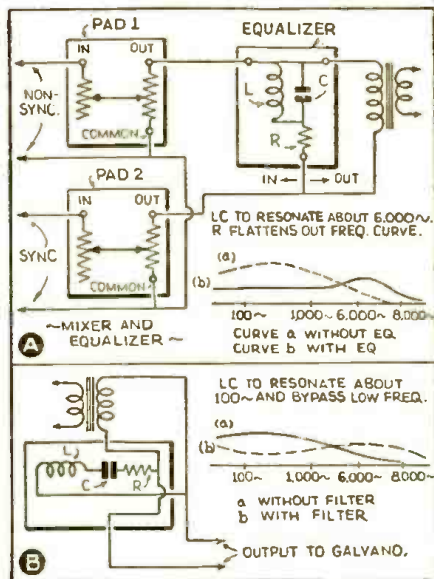
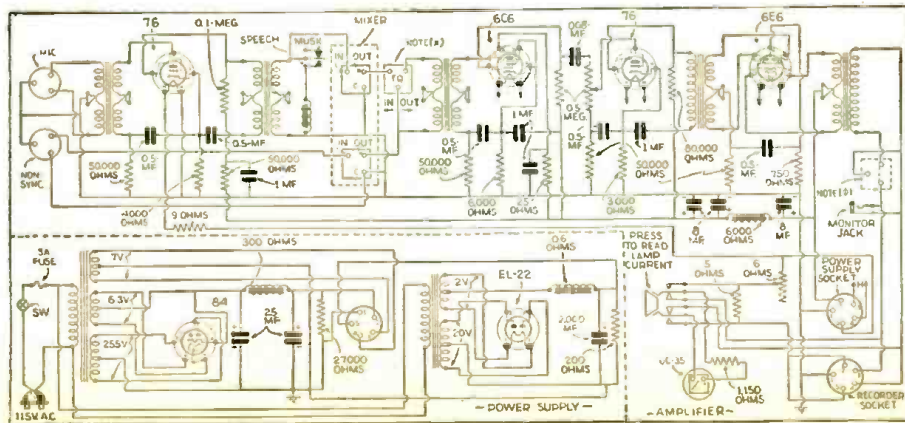

Fig. 5. Circuit details of (A) "mixer" and "note (x)" (high-pass filter), and (B) "note (φ)" (low-pass filter), in Fig. 4.
Fig. 4. Diagram of complete amplifier. Galvanometer connects at Recorder Socket.
A complete diagram covering both amplifier and power supply is shown in Fig. 4. Only the highest grade parts can be used in such a system due to the exceptionally low powers dealt with. Four tubes are used in the amplifying system; and 2 rectifiers are a part of the power supply. The 84 supplies high voltage for the various tubes, while the EL-22, a high-current rectifier, supplies 6 V. for the recording bulb, field magnets and also the filament voltage for the first 76 tube. Very low hum output results from the D.C. power on its filament.
The diagram of the mixer circuit and the equalizer circuit indicated in Fig. 4 are shown in Fig. 5. The words "note (x)" and "note (φ)", code words used by the manufacturer, denote (respectively) an equalizer and a high-pass filter.
**The Low-Pass Filter.** The low-pass filter is shown in Fig. 5B. This is the unit shown in Fig. 4 as Note (φ).